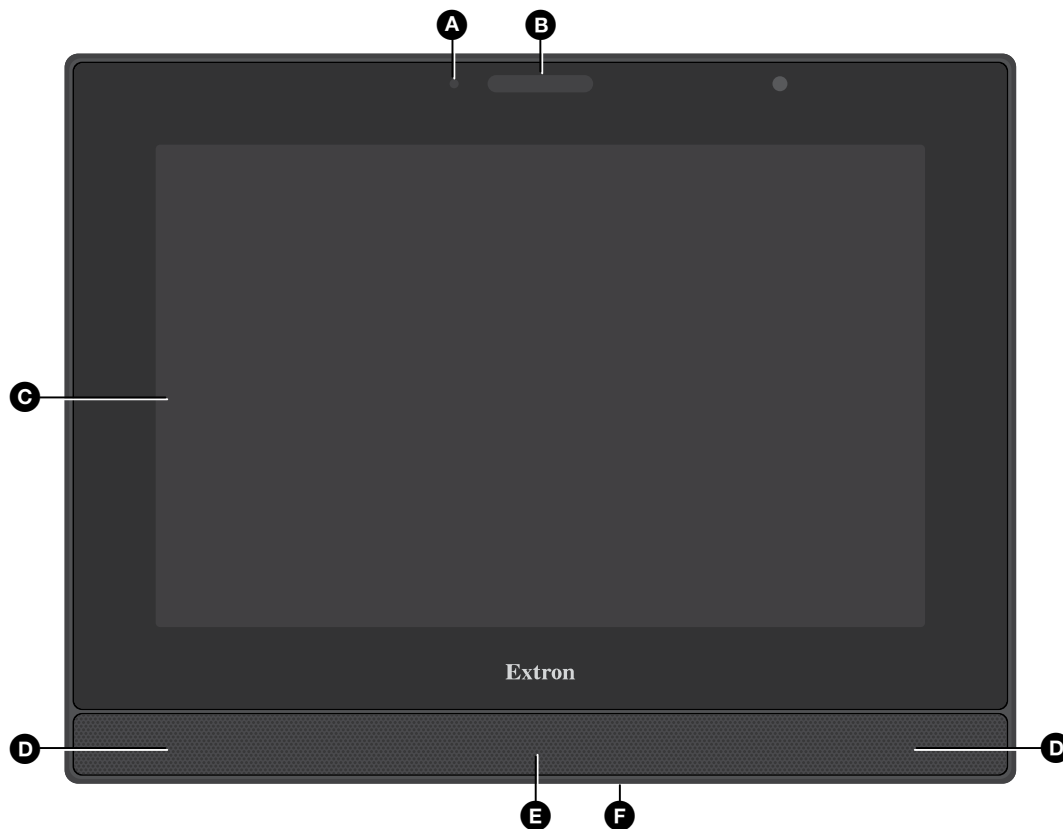
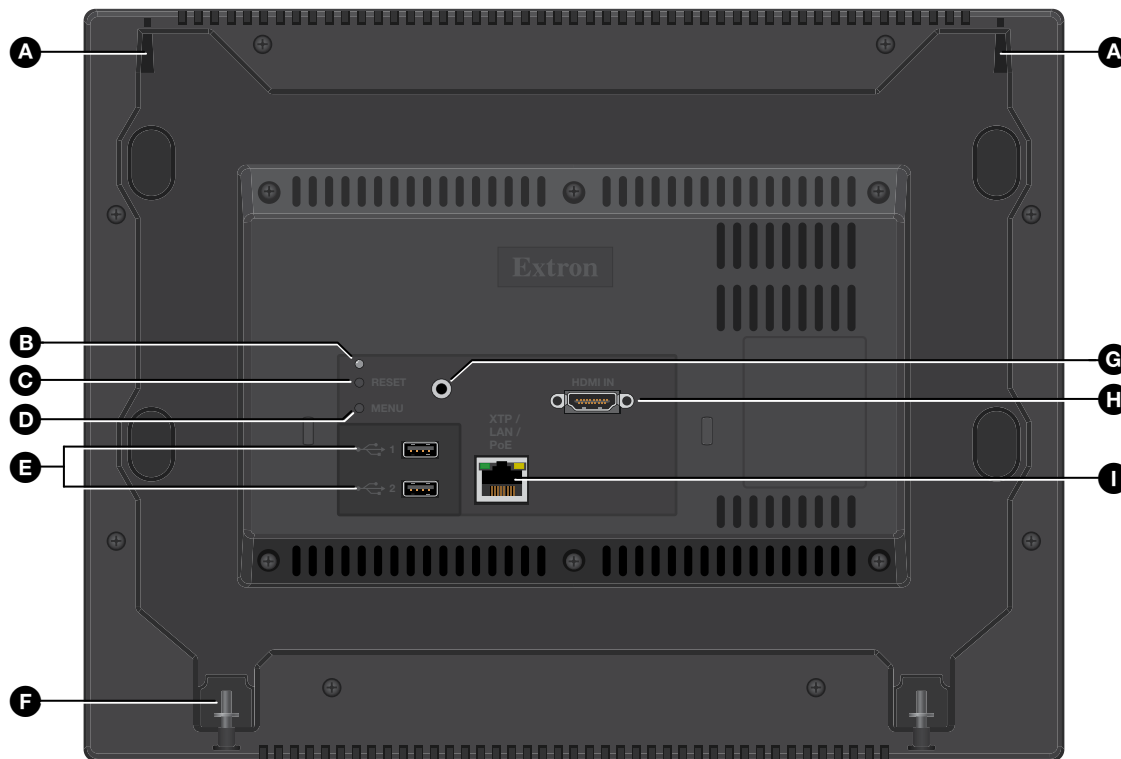

Figure 2. TLP Pro 1225MG Front Panel
Figure 3. TLP Pro 1225MG Rear Panel
Figure 2 shows the TLP Pro 1225MG front panel. The TLP Pro 1525MG and TLP Pro 1725MG features are very similar.
Figure 2 shows the TLP Pro 1225MG rear panel. The TLP Pro 1525MG and TLP Pro 1725MG features are very similar.
2. Connect a second straight-through cable (❷) from the power injector to the TLP Pro touchpanel XTP/LAN/PoE connector (see figure 3, ❶, on page 4). This cable carries the network information and 48 VDC from the power injector to the touchpanel.
- **Use factory firmware:** Use this mode to replace firmware in the event of firmware failure. Press and hold the **RESET** button (see figure 3, ❸) while applying power to the unit.
- **Reset All IP Settings:** Use this mode to reset all network settings without affecting user-loaded files. Press and hold the **RESET** button for 6 seconds. After the **RESET** LED (❷) blinks twice, release and momentarily press the **RESET** button.
Press the **MENU** button (figure 2, **F** on page 3 or figure 3, **D**, on page 4) to open the setup menu. Select any of the six available screens (**Status**, **Network**, **Display**, **Audio**, **Input** and **Advanced**) by tapping the appropriate button in the navigation bar at the top of the screen (for more information, see the *TLP Pro 1225, 1525, and 1725 Series User Guide*).